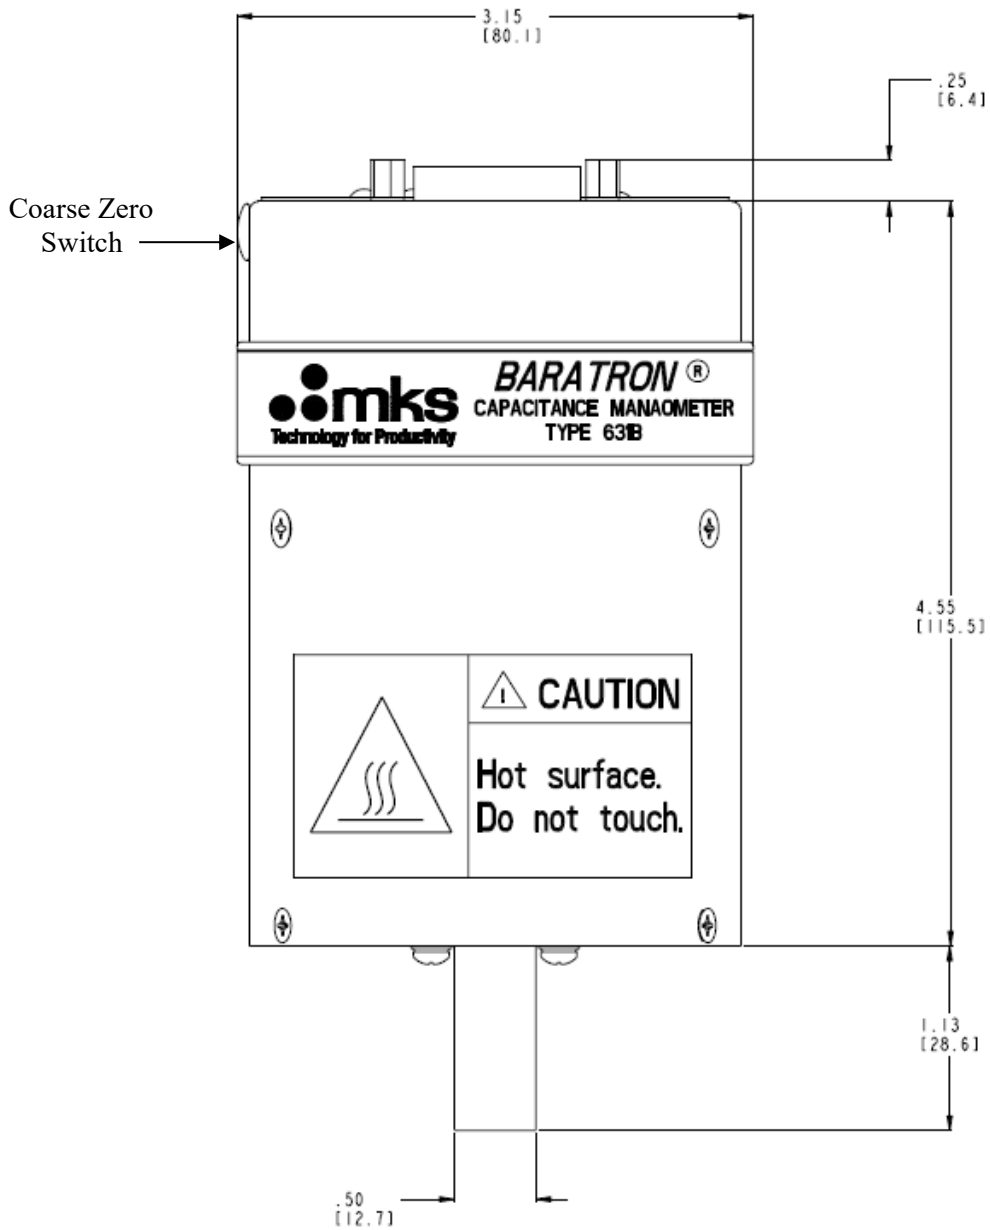

Figure 4: Dimensions of the Type 631F Transducer
5. Remove the plug that covers the COARSE ZERO switch. Refer Figure 4: Dimensions of the Type 631F Transducer, page 32.